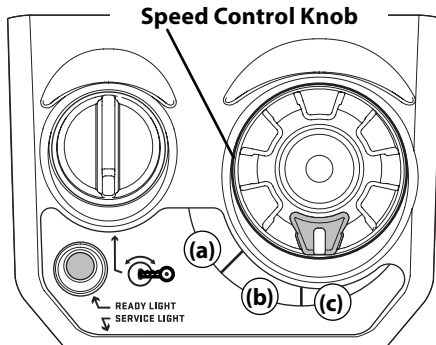

Figure 5-3
**NOTE:** The speed control knob is used to select one of three positions to select engine speed. Engine can be started in any speed setting. See Figure 5-3: